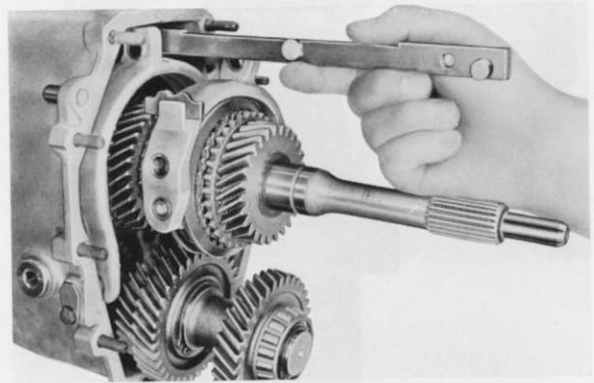
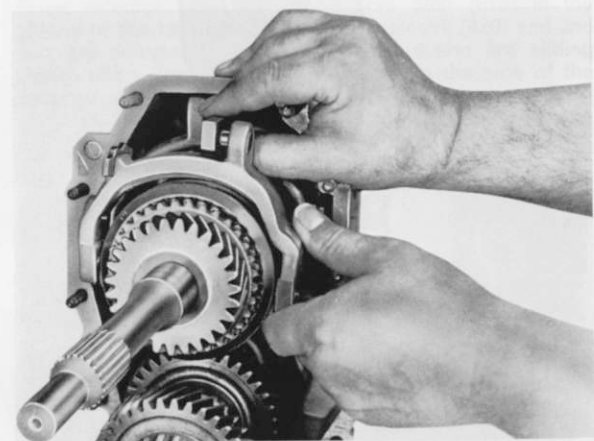

Fig. 49
Fig. 50
as shown in Fig. 49 into the bore of the selector fork (609). Install 4th and 5th gear selector rail (608) as previously described (Fig. 50).